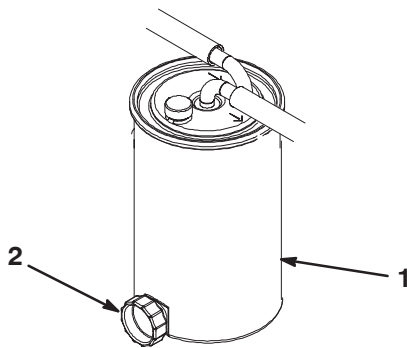

Figure 7
3. Open the drain plug on the fuel filter approximately one turn and drain any accumulated water (Fig. 7). Tighten the plug after draining.